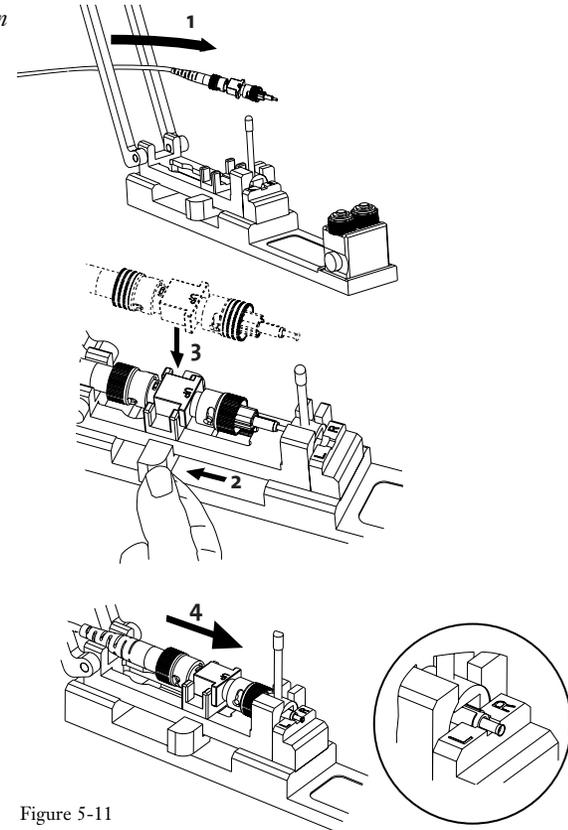

Figure 5-11
**ST-compatible Connectors** (Figure 5-11):